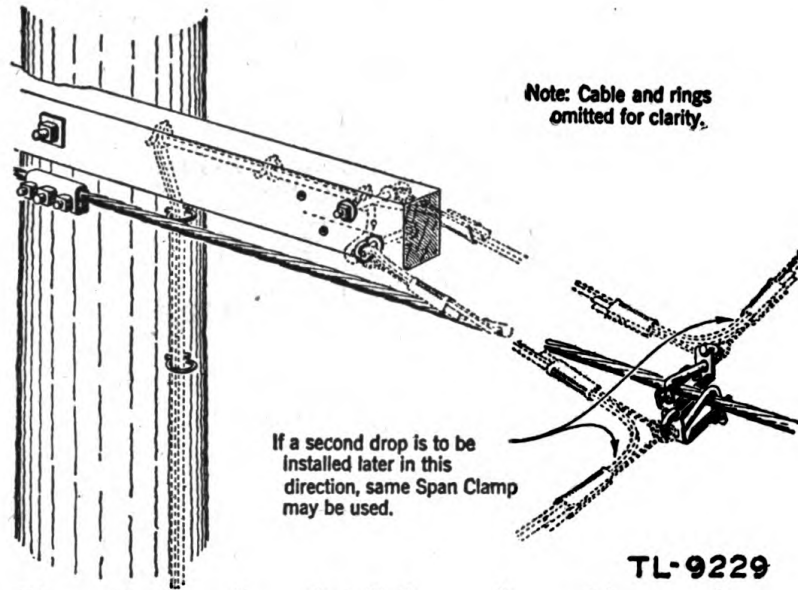

Figure 34. Span clamp installed on pole requiring guardarm.
(4) A span clamp mounted on a pole requiring a guardarm is shown in figure 34.